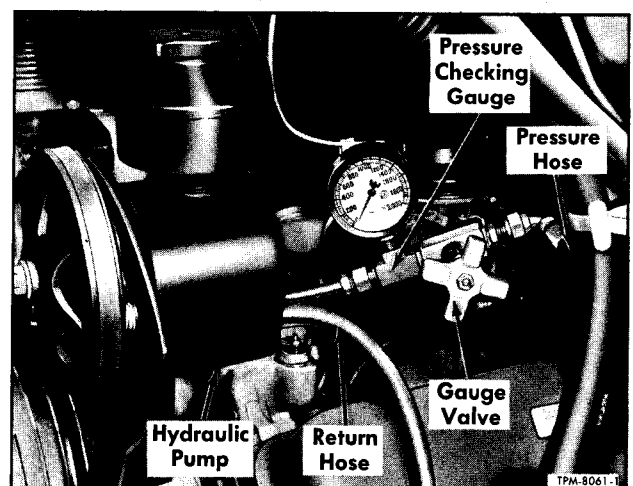

Figure 3—Checking Pump Hydraulic Pressure (Vane Type Pump) (Typical)
1. Disconnect pressure hose from fitting at the hydraulic pump. Connect a 0 to 2000 psi pressure gauge (J-22181) between the pressure hose and the pump pressure port. Leave valve in pressure gauge line open (fig. 3).